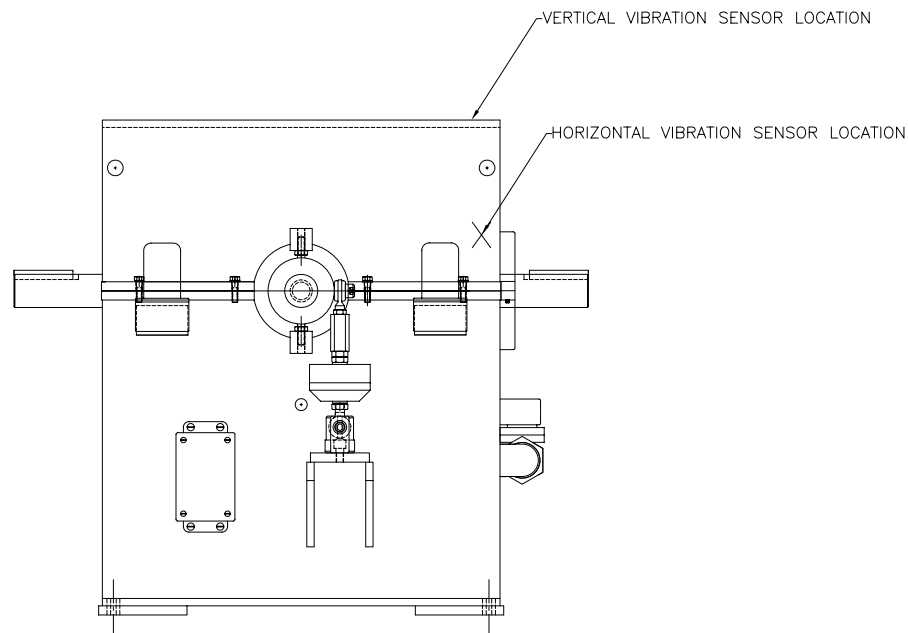

Figure 6.1 - Accelerometer Probe Locations, Enclosure Type Dynamometer
2. Second, monitor for **VIBRATION** with an accelerometer while speed is being increased. When measuring vibration locate the accelerometer probe in both horizontal and vertical positions. Refer to Figures 6.1 or 6.2 for locations on either an enclosure type or pedestal type dynamometer.